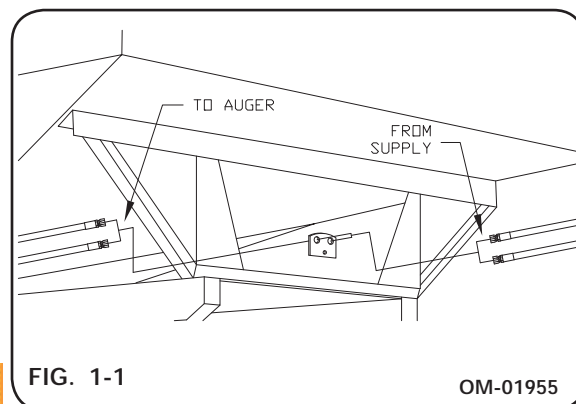

FIG. 1-1
5. Connect hydraulic supply lines to auger hydraulic lines and tighten securely. Be sure that the auger control is in the off position (Fig. 1-1).